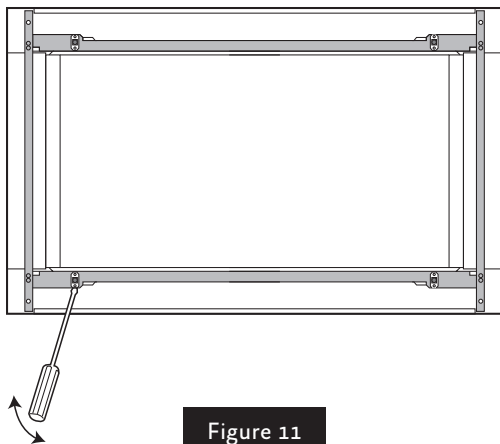

Figure 11
D. DISASSEMBLY: The FRONT FRAME (J) and BACK FRAME (K) come pre-assembled with ball studs engaged in the receivers.
- Repeat for each corner. See Figure 11.